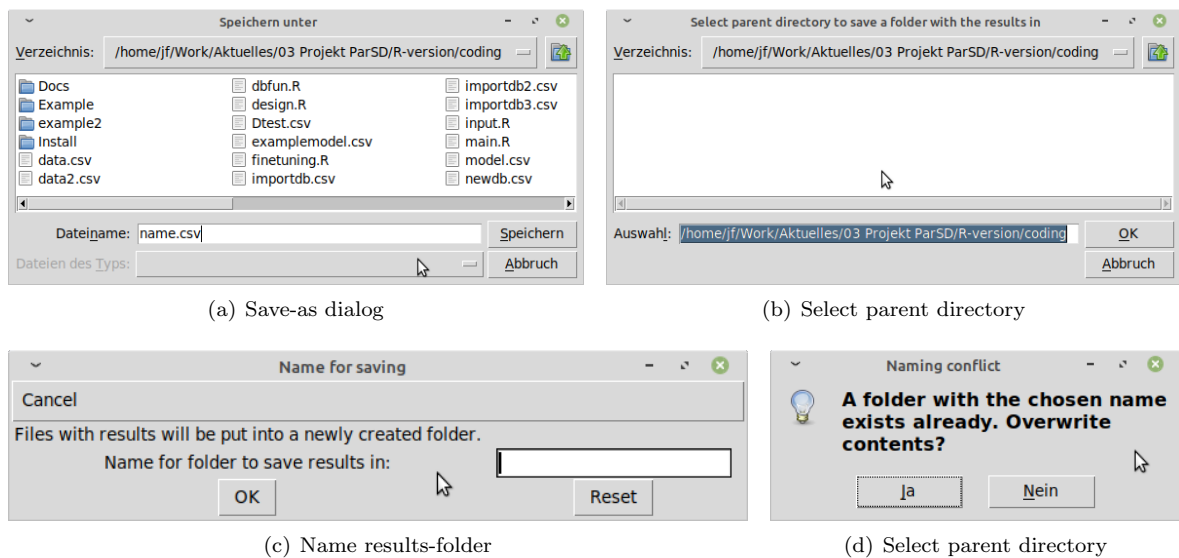

Figure 2: Save fine-tuned results
- recipe, which is a subset database containing the materials used for the present calculation. Has to be saved as CSV file in the Save-As window by adding the file extension to the filename as shown in Figure 2(a).
- batch, which is the table shown in the results window giving the contents of the materials. Has to be saved as CSV file in the Save-As window by adding the file extension to the filename as shown in Figure 2(a).
- model (comparison), which is the lower part of the results-window including information to the model (type and parameters). Has to be saved as CSV file in the Save-As window by adding the file extension to the filename as shown in Figure 2(a).
- graph, as adjusted and displayed by the 'Open/close plot' button. Has to be saved as PNG file in the Save-As window by adding the file extension to the filename (cf. Figure 2(a)).
- complete results (recipe, batch, model (comparison) & plot). In this case, a folder will be created into which the four files will be put. The user is asked to give the parent folder into which the new results folder should be placed (Figure 2(b)) and then to give a name for the results folder (Figure 2(c)). If a folder with this name already exists, the user is informed but can decide to overwrite the contents (Figure 2(d)).